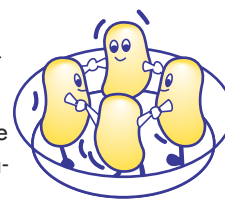

fig. 5
- 5) If you are preparing a large number of portions of the same food item (e.g., boiled potatoes), **place** them in a large dish to allow uniform cooking (see fig.5).